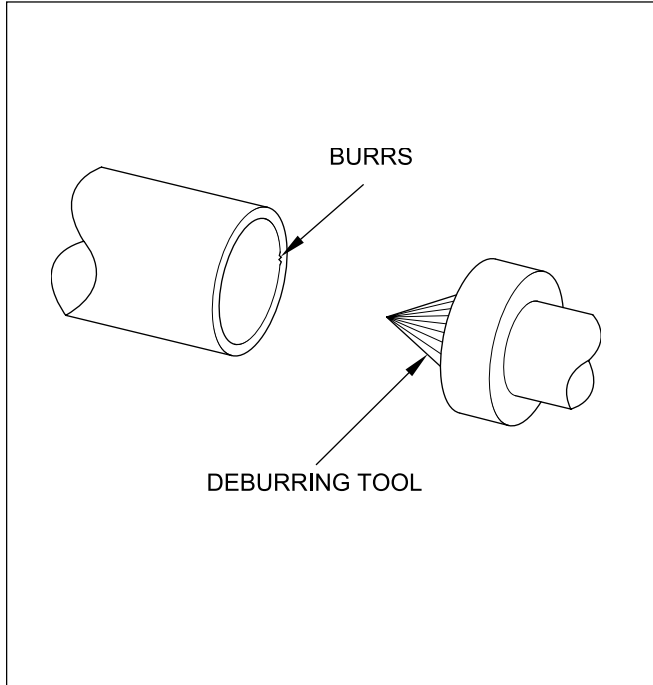

Figure 16
- Use a deburring tool to remove all burrs from the bore of all tubing sections that have been cut (see Figure 16).